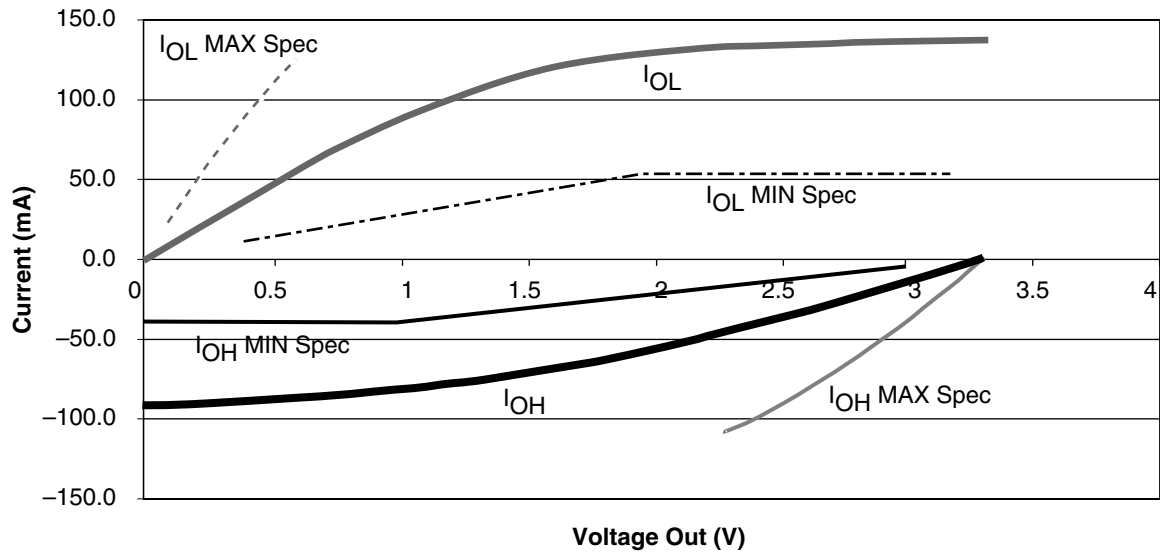

Figure 9 • 3.3V PCI Curve for SX-A Family
1. Refer to the VI curves in Figure 9 on page 17. Switching current characteristics for REQ# and GNT# are permitted to be one half of that specified here; i.e., half size output drivers may be used on these signals. This specification does not apply to CLK and RST#, which are system outputs. "Switching Current High" specifications are not relevant to SERR#, INTA#, INTB#, INTC#, and INTD, which are open drain outputs.
2. Maximum current requirements must be met as drivers pull beyond the last step voltage. Equations defining these maximums (C and D) are provided with the respective diagrams in Figure 9 on page 17. The equation defined maxima should be met by design. In order to facilitate component testing, a maximum current test point is defined for each side of the output driver.
Figure 9 shows the 3.3V PCI V/I curve and the minimum and maximum PCI drive characteristics of the SX-A family.